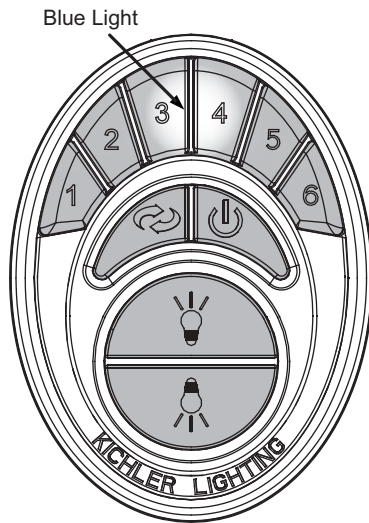

Fig. 21
3. Test the transmitter by pushing and releasing ANY button briefly. A Blue Light should illuminate under the 3-4 buttons. (Fig. 21) If not, check to make sure the batteries are inserted and seated correctly.